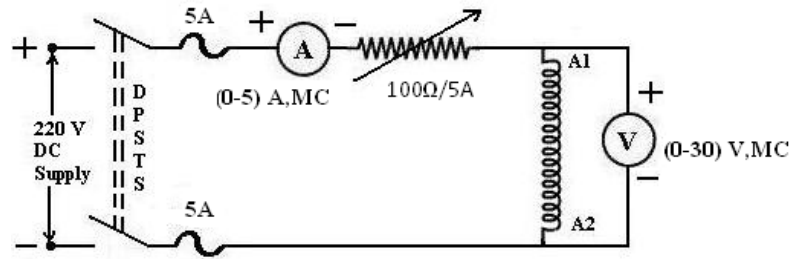

Fig 10.2: Circuit diagram for finding stator resistance
1. Connect the circuit as per the fig 10.2.
S.No.	I o (A)	V o (V)	W 1 (W)	W 2 (W)	W 1 +W 2 (W)	Stator Cu loss (W)	Constant loss per phase (W)	Core loss per phase (W)	Speed (rpm)